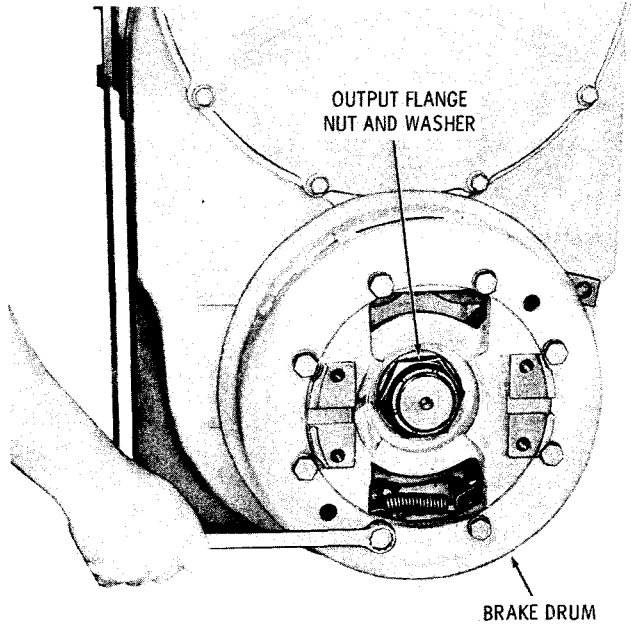

Fig. 5-3. Removing parking brake drum
(1) Remove eight bolts and lockwashers that retain the parking brake drum (fig. 5-3). Remove the parking brake drum.